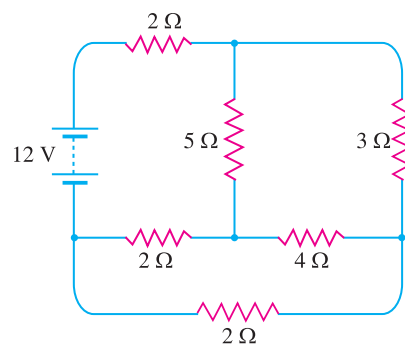

Fig. 1.53
- Using Thevenin's theorem, find the current through $4\ \Omega$ resistor in the circuit of Fig. 1.53. **[0.305 A]**